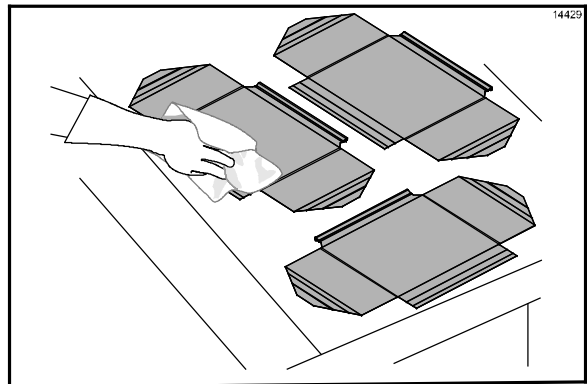

Figure 108
42. Rinse both sides of the release sheets with a clean, sanitizer-soaked grill cloth. (See Figure 108.)